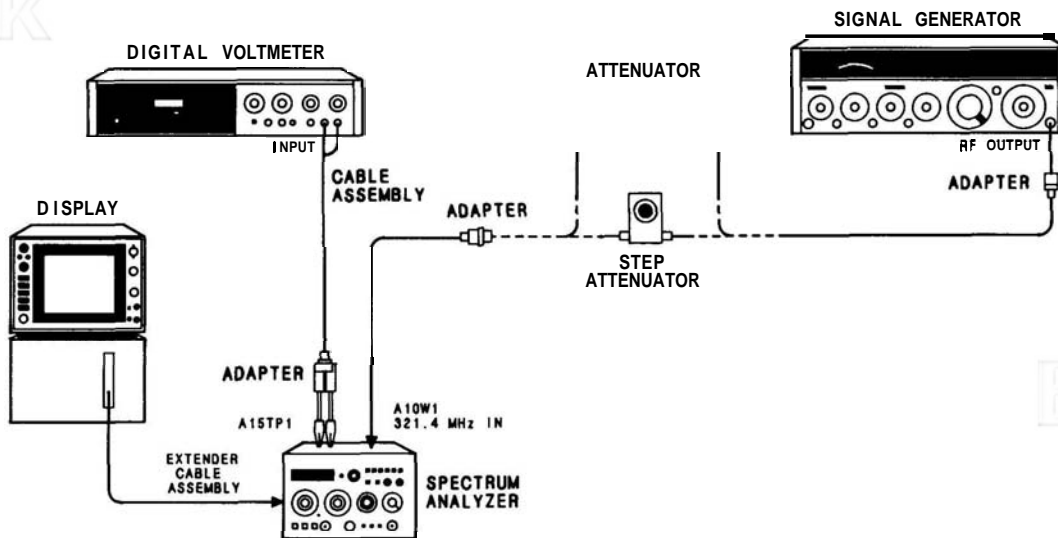

FIGURE 5-10. STEP GAIN ADJUSTMENT TEST SETUP
2. Connect equipment as shown in Figure 5-10. Connect signal generator tuned to 321.4 MHz with approximately -30 dBm output to one side of a 1 dB/step attenuator. Connect step attenuator output to A10W1 through adapter. Tune signal generator frequency for peak amplitude on display.